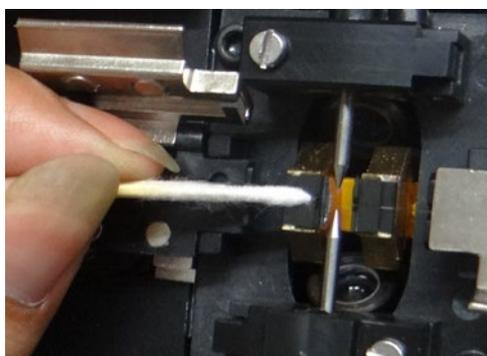

FIGURE 5.2
2. Use a cotton swab soaked with alcohol to clean the surface and bottom of the V groove. At last, the alcohol should be the natural air-dry or wiped dry by the dry cotton swab. Shown in figure 5.2.